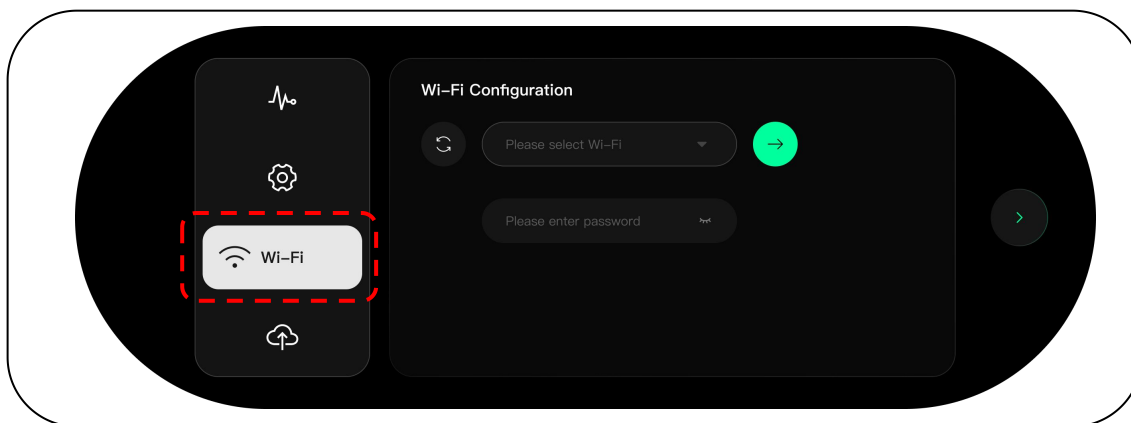

Figure 55
- 1) Touch the "WIFI" option in the menu bar, the display is shown in Figure 55.